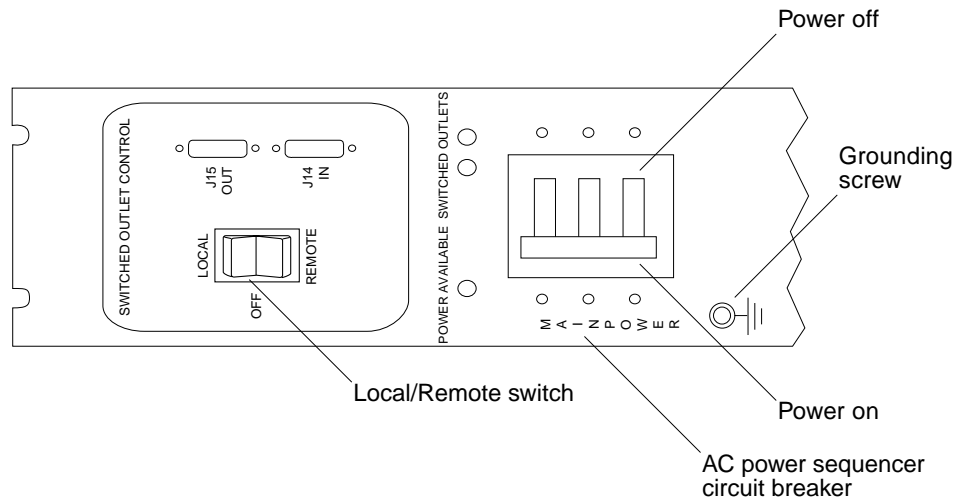

FIGURE 4-3 Power Sequencer Control Panel
1. Verify that each AC power sequencer circuit breaker is in the Off position and that the Local/Off/Remote switch is in the Local position on each power sequencer (FIGURE 4-3).